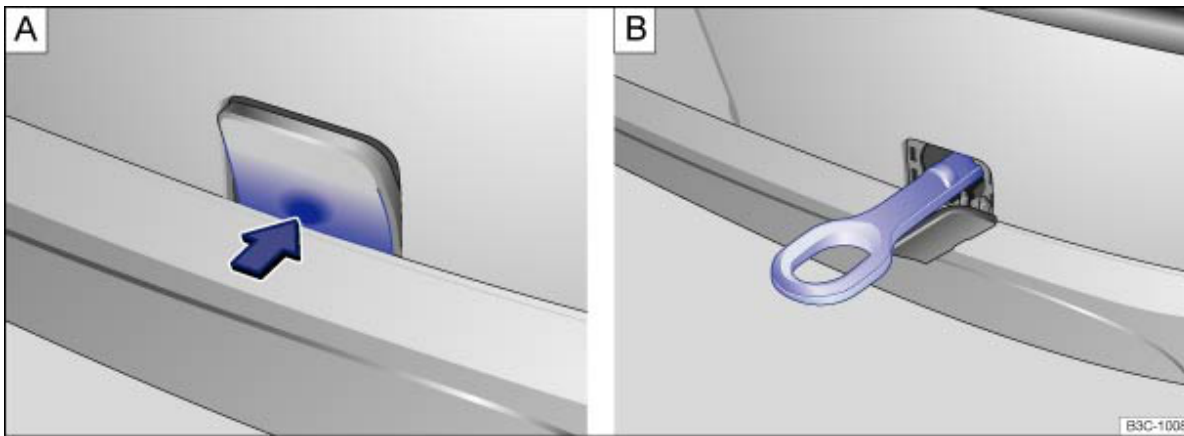
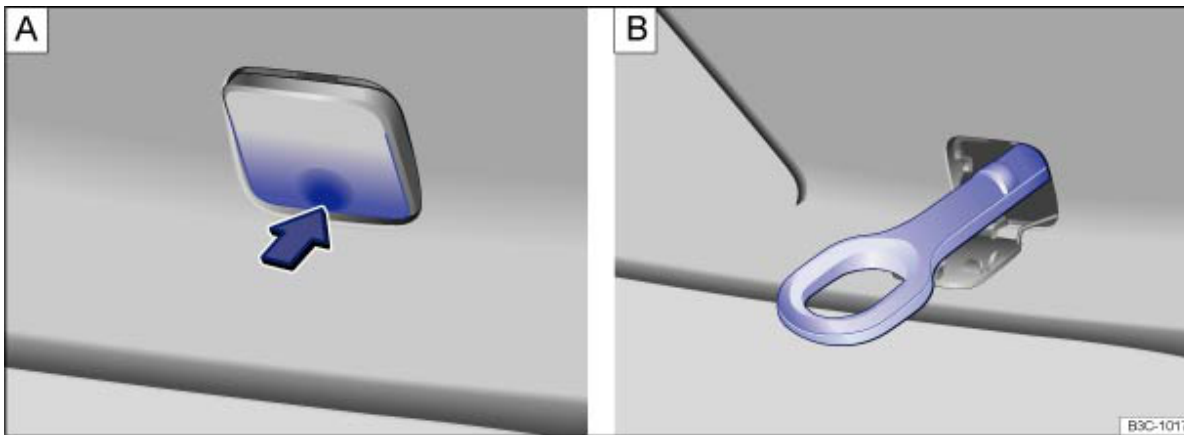

Fig. 257 In the front bumper, right-hand side (variant 1): removing the cover (A) and the inserted towing eye (B)
Fig. 258 In the front bumper, right-hand side (variant 2): removing the cover (A) and the inserted towing eye (B)
The towing eye is screwed into a threaded hole behind a cover on the right of the rear bumper → Fig. 257 or → Fig. 258. In *vehicles with a factory-fitted towing bracket* there is **no** mounting for the removable towing eye behind the cover. To tow start, fit and use the ball coupling → Towing a trailer , →  .
- Press the bottom of the cover → Fig. 257 A or → Fig. 258 A in the direction of the arrow to release the cover.